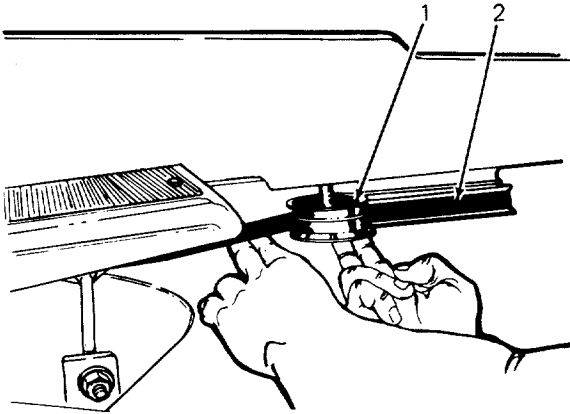

Figure 49
- Pull idler pulley away from the tractor and then place drive belt behind it. Release idler pulley. (Refer to Figure 49.)